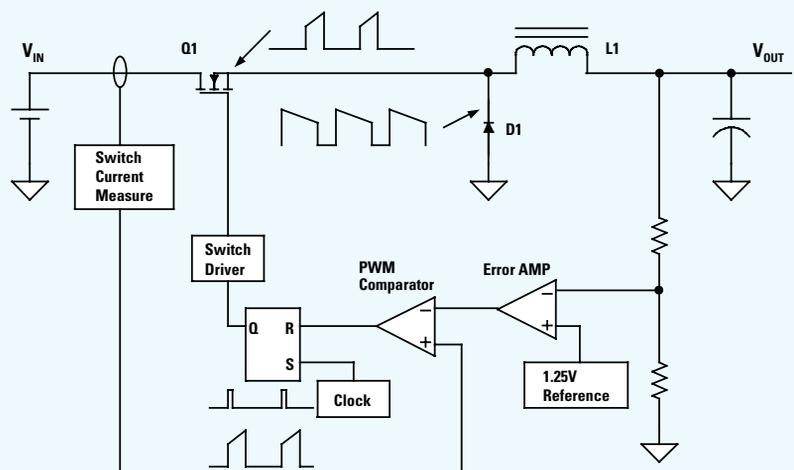

Figure 1. Buck Regulator Using Current Mode Control
*Figure 1* shows the block diagram of a buck regulator utilizing the current-mode control method. The output voltage is monitored and